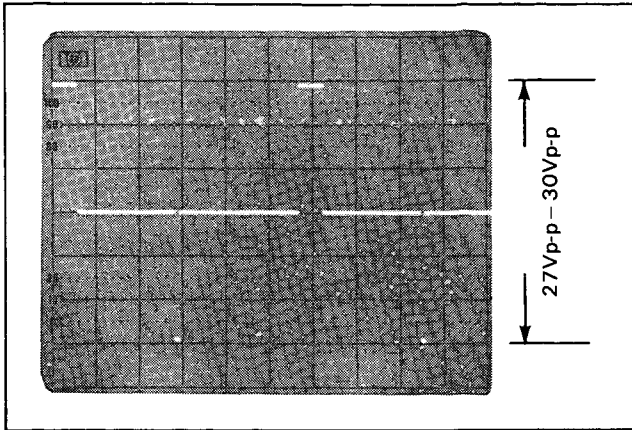
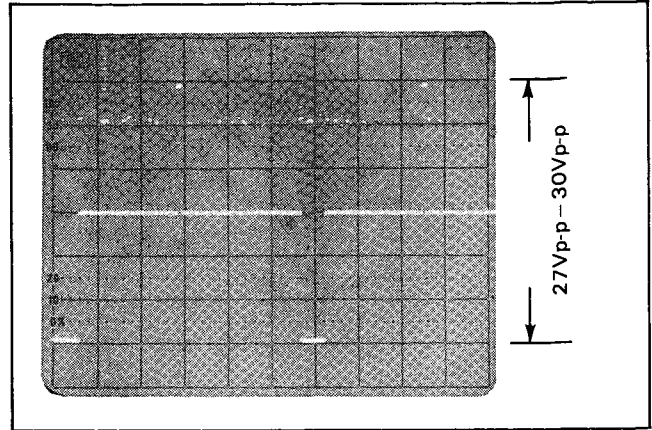

Figure 5-3. Z-Axis Polarity Observation "BLK+"
Figure 5-4. Z-Axis Polarity Observation "BLK-"
E. Observe the waveform on the oscilloscope. The waveform should have the amplitude and polarity as shown in Figure 5-3 if A2S501 is in the "BLK +" position. If A2S501 is in the "BLK -" position, the waveform should appear as shown in Figure 5-4.